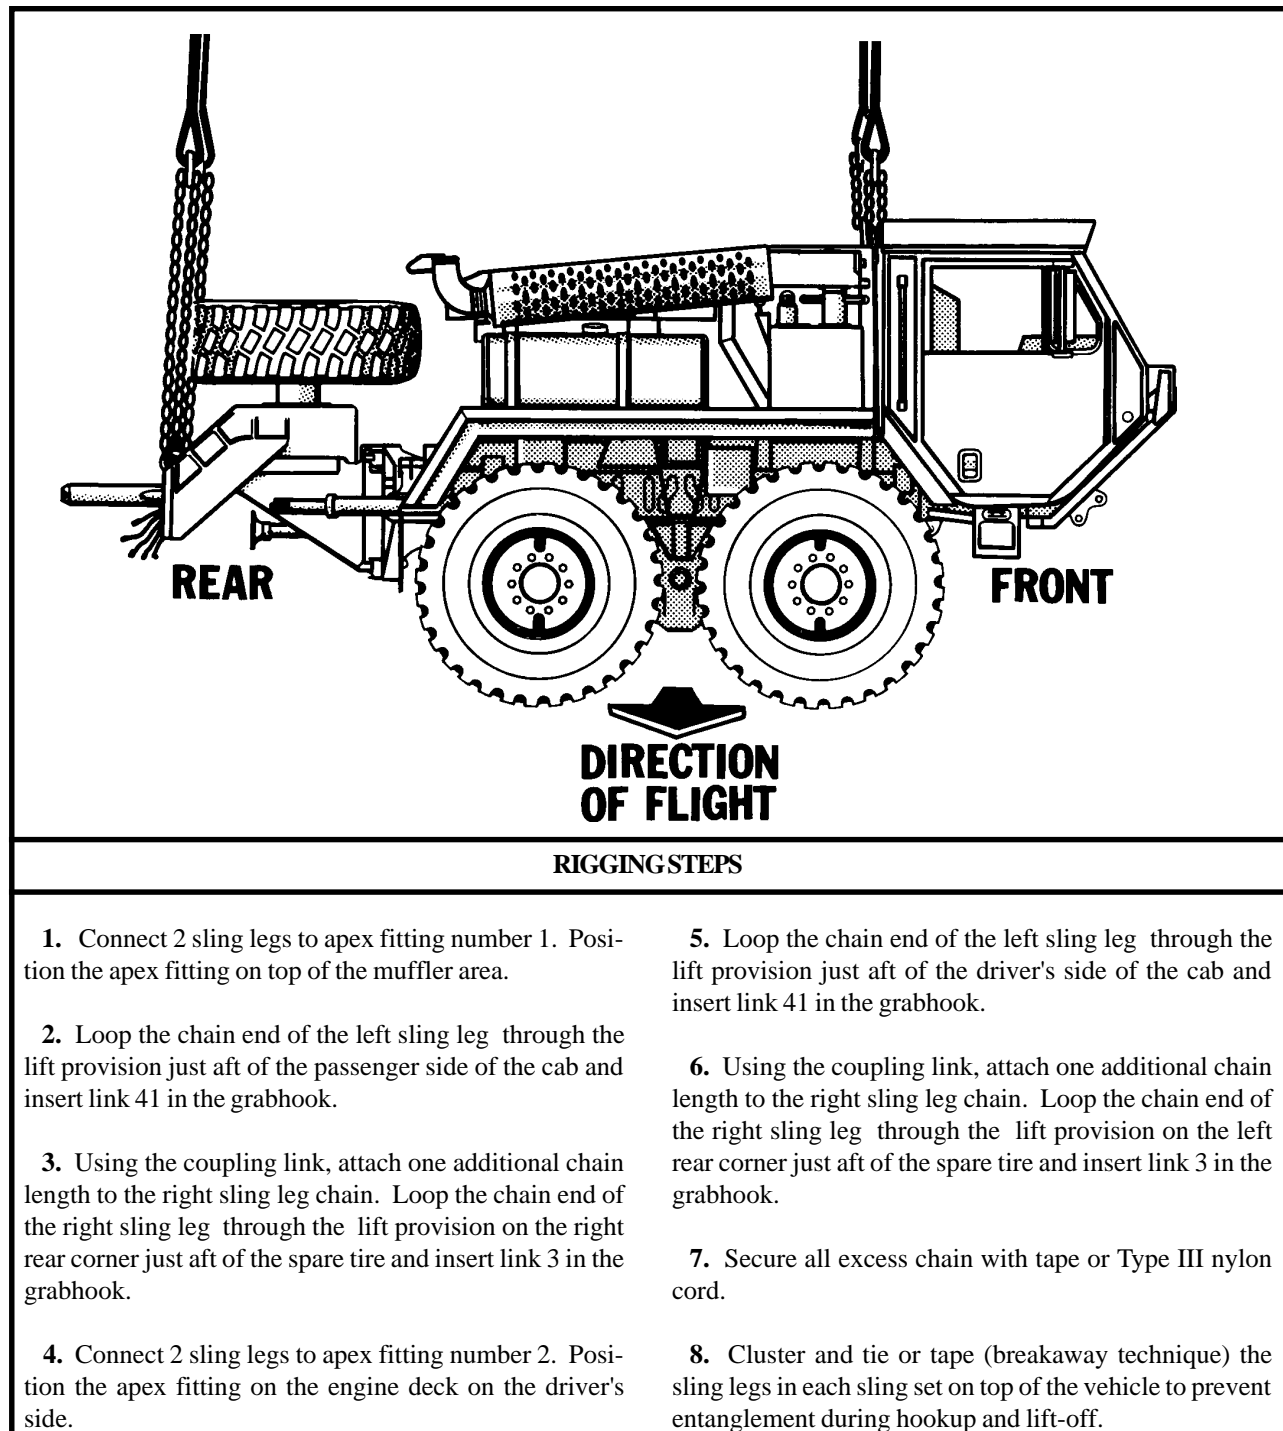

Figure 2-24. Front Power Unit, MK48
(2) **Rigging.** Rig the load according to the steps in Figure 2-24.